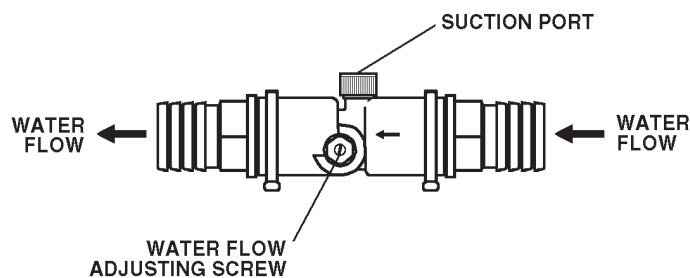

Figure 4
- b) Place a finger lightly over the SUCTION PORT (Figure 4). A slight suction should be detected for approximately ONE THIRD (1/3) of pumping cycle time. (Do not confuse with ONE THIRD (1/3) of pressure range).
- c) If suction is too short, increase by turning air adjustment screw (Figure 4), CLOCKWISE. To decrease duration, turn COUNTERCLOCK WISE.